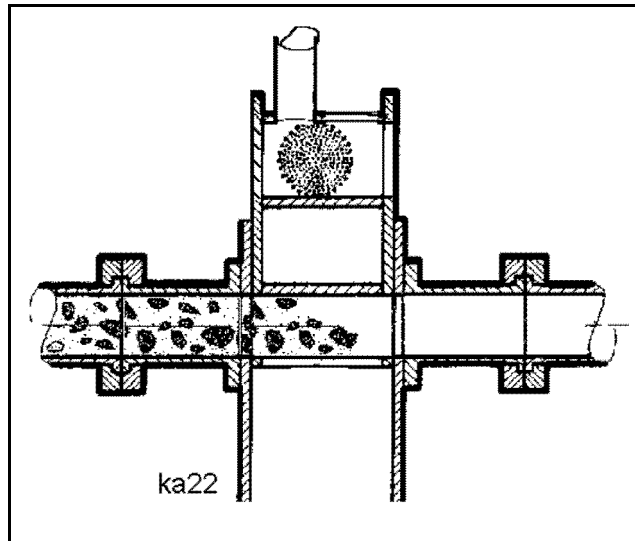

Fig. 466
- Place a soft cleaning ball into the chamber as described above (**Fig. 466**).